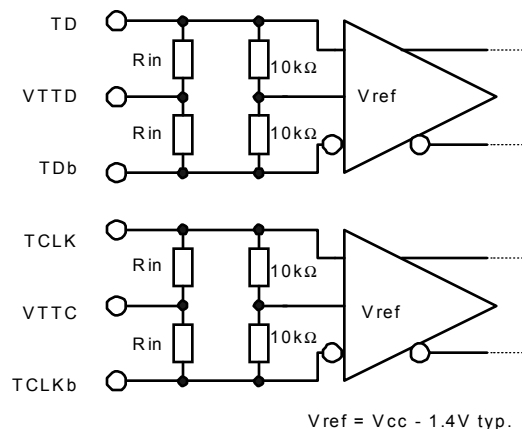

Figure 3. Data and Clock Input Interface
1. Termination current is not included. 2. Measured between each signal input and VTTD or VTTC. Refer to Figure 3.